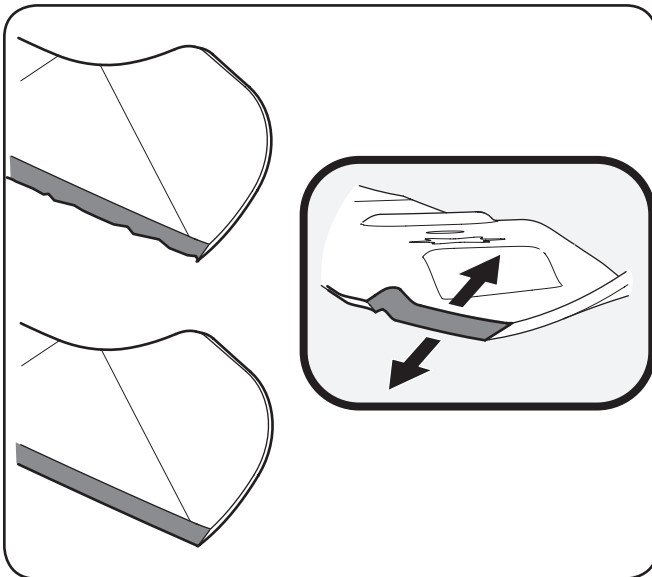

Figure 7-6
- To properly sharpen the cutting blades, remove equal amounts of metal from both ends of the blades along the cutting edges, parallel to the trailing edge, at a 25°- to 30° angle. Always grind each cutting blade edge equally to maintain proper blade balance. See Figure 7-6.